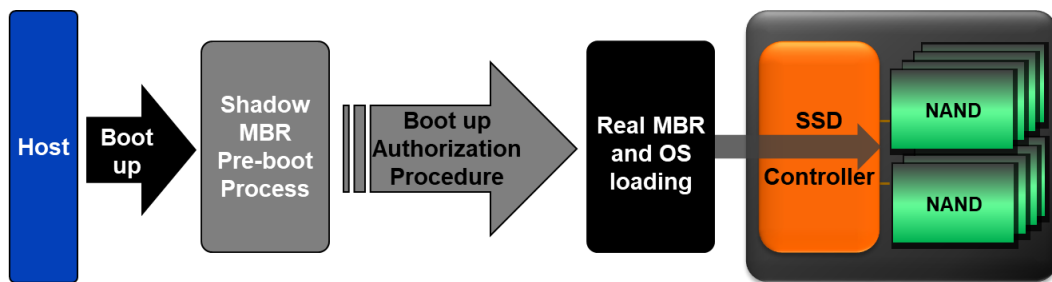

Figure 6: TCG OPAL Operation Process
For system and SSD authentication encryption, the Trusted Computing Group (TCG) has developed a comprehensive specification called Opal. The object specification includes the manufacturer of the storage device, the software vendor, the system integrator, and the academic institution. This specification covers the production, system installation, management and use of storage devices. Data is encrypted and stored hierarchically to avoid theft and tampering. The Flash Lock function is based on the TCG Opal specification used to perform system and SSD authorization. The idea is to enter a shadow master boot record (MBR) simulation space and use the Manufacturer Secure ID (MSID) for pre-boot authentication. After authentication, both parties will enter the real MBR and boot process as shown in Figure 6. Since encryption and decryption are performed inside the connection, it doesn't need to pass through the host (OS) and occupy